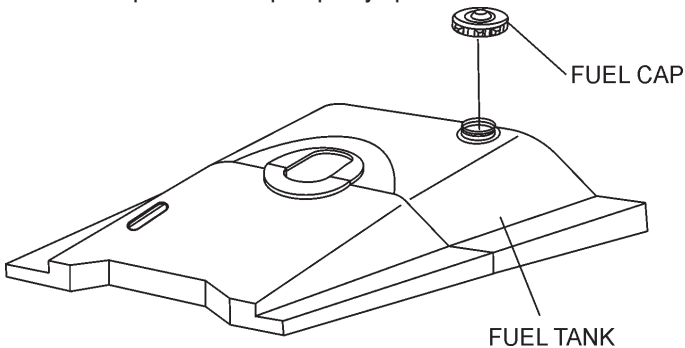

Figure 8. Fuel Tank/Cap
1. Remove the gasoline cap (Figure 8) located on top of fuel tank.